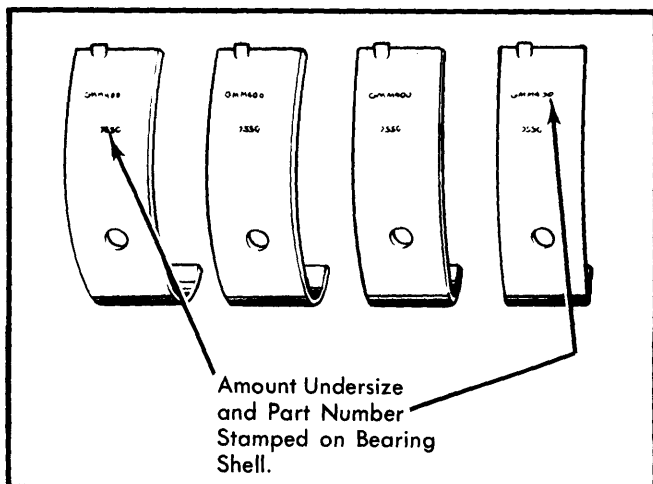

Fig. 6 Main Bearing Identification
2) To replace upper main bearing half, insert a flattened cotter pin or roll pin in oil passage hole in crankshaft and rotate crankshaft in direction opposite to cranking rotation. Place new upper bearing half on crankshaft journal with locating tang in correct position. Rotate shaft to turn bearing into place using tool as in removal. Tighten all main bearing cap bolts and rotate crankshaft. Be sure there is no drag. See Fig. 6.